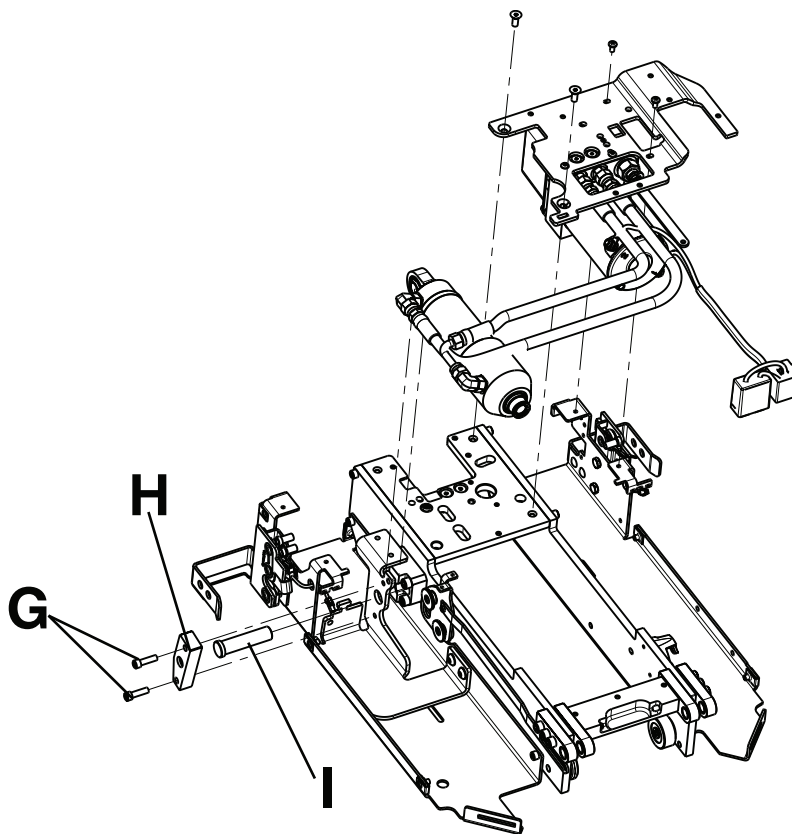

Figure 17: Pin and hydraulic cylinder removal
- Using a 3/16" hex wrench, remove the two screws (G) that secure the pin bracket (H) to the trolley (Figure 17 on page 51).
12. Remove the pin (I) and lift the hydraulic cylinder out (Figure 17 on page 51).